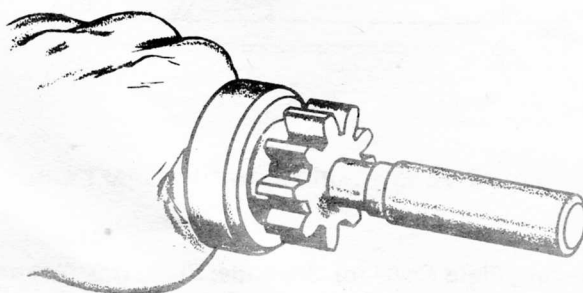

FIGURE 26. TOOL FOR DRIVING PINION STOPPER
5. **Solenoid Starter Only:** Remove the ring after driving the pinion stopper toward the pinion gear using a cylindrical tool Figure 26. Remove the overrunning clutch and the pinion stopper at the same time.